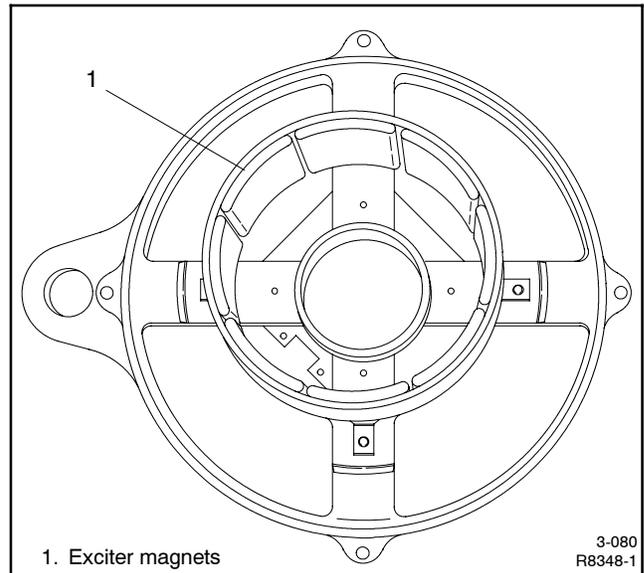

Figure 4-10 End Bracket View
- Remove the exciter magnets from the end bracket. See Figure 4-10.
- Attach the exciter field to the end bracket with four mounting screws. See Figure 4-10. Torque to specifications.